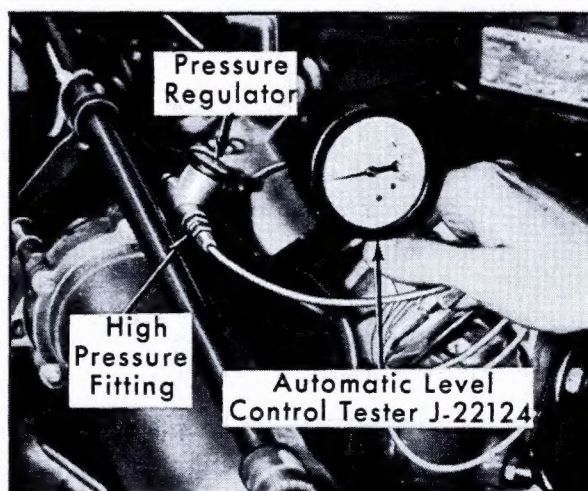

Fig. 4-8 Testing Compressor Output
2. Deflate system through service valve. Remove high pressure line at regulator adapter fitting and connect Test Gage, J-22124, Fig. 4-8.